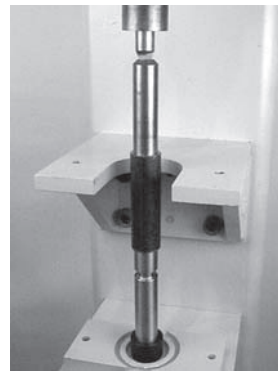

Figure 44
6. Using an arbor press or similar device, press bearing onto pulley shaft (**Figure 44**).